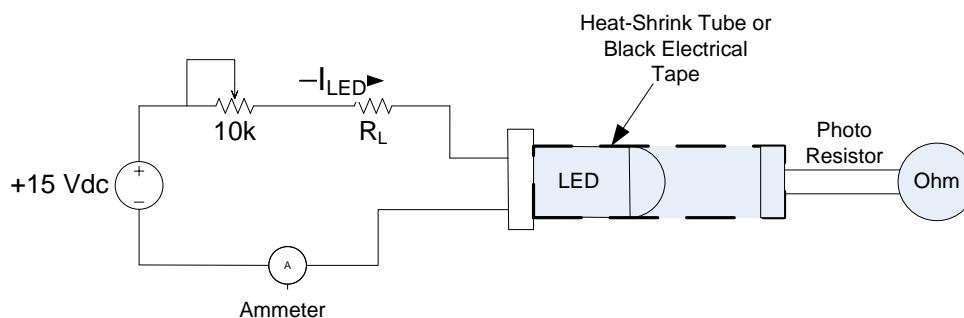

Figure 11. Determining the Relationship Between I_{LED} and Photo-Resistor Resistance
- 1.) Determine the photo-resistor light/resistance characteristic. The photo-resistor is a Radioshack Part/Cat. Number 276-1657. Figure 11 shows the test fixture for determining the sensor resistance as for an LED input current. Mechanically
connect the LED to the photo-resistor using a short section of heat-shrink tubing or black electrical tape. Use a T1 sized red LED for the light source. Connect the LED to a 15 Vdc voltage source through a 10 k Ω potentiometer, a current limiting resistor R_L and an ammeter as shown in Figure 11. Size R_L based on the maximum allowable LED current found in the LED data sheets. Also connect an Ohmmeter to the photo-resistor leads. Vary the LED current starting from 0 to the maximum value in ten steps using the potentiometer. Record I_{LED} and sensor resistances R_s in Table A1. Also note the maximum R_s and I_{LED} in the spaces provided above Table A1.